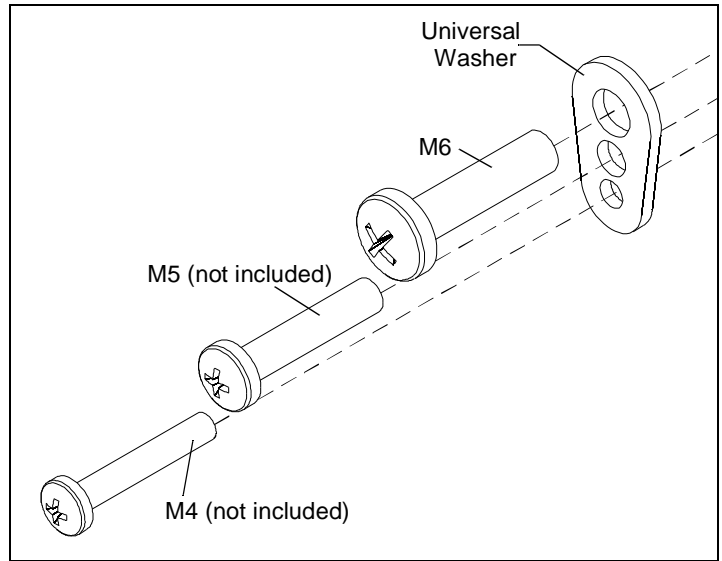

Figure 1
NOTE: The provided fasteners should be used with the universal washer (A) as noted. (See Figure 1)